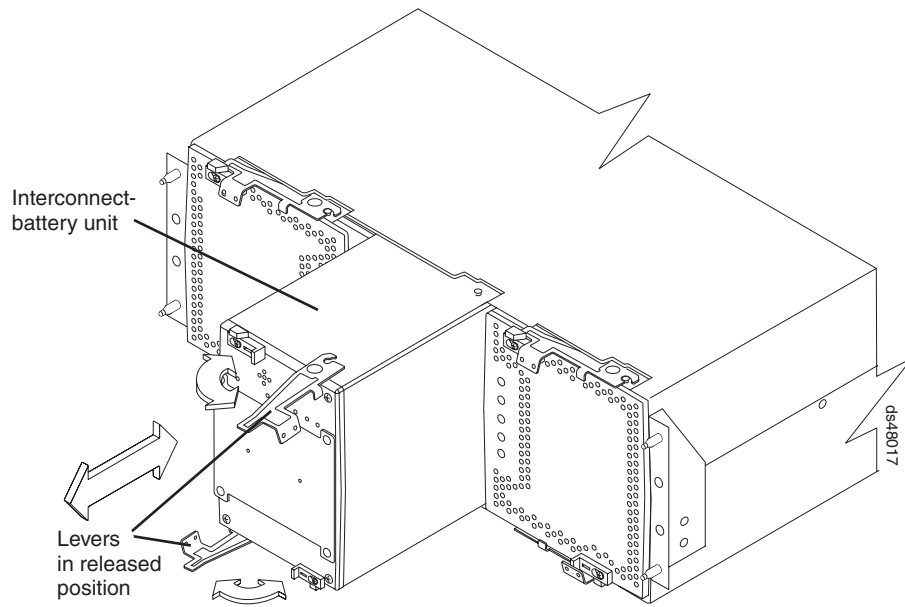

Figure 97. Removing an interconnect-battery unit from the DS4800
7. Unlatch both the top and bottom levers of the interconnect-battery unit and rotate both levers straight out simultaneously to remove the failed interconnect-battery unit. (Figure 97 on page 163 shows the interconnect-battery unit sliding from the storage subsystem chassis.)